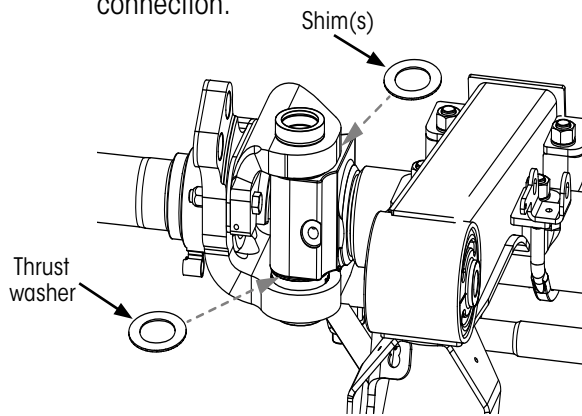

Figure 29: Installing shims
- iii. If the reading is greater than 0.030" add shims (Figure 29) between the top of the axle and the bottom of the upper kingpin connection.